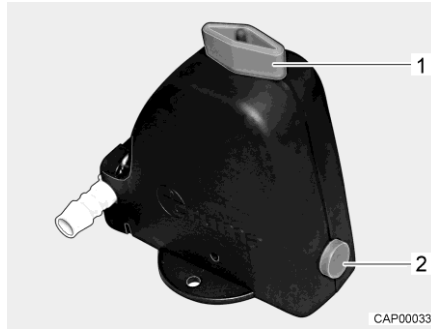

Fig. 252 Safety/drainage valve (Truma)
- Close the safety/drainage valve (Truma). Turn the knob (Fig. 252,1) perpendicular to the safety/drainage valve and push the push button (Fig. 252,2) in.